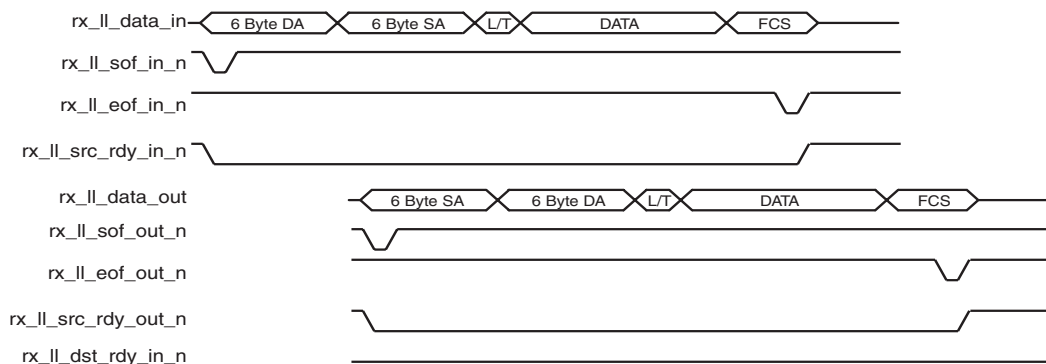

Figure 4-3: Modification of Frame Data by Address Swap Module
The address swap module takes frame data from the GEMAC receiver client interface. As illustrated in Figure 4-3, the module swaps the destination address (DA) and source address (SA) of each frame, which ensures that the outgoing frame destination address matches the source address of the link partner. The module transmits the frame control signals with an equal latency to the frame data.